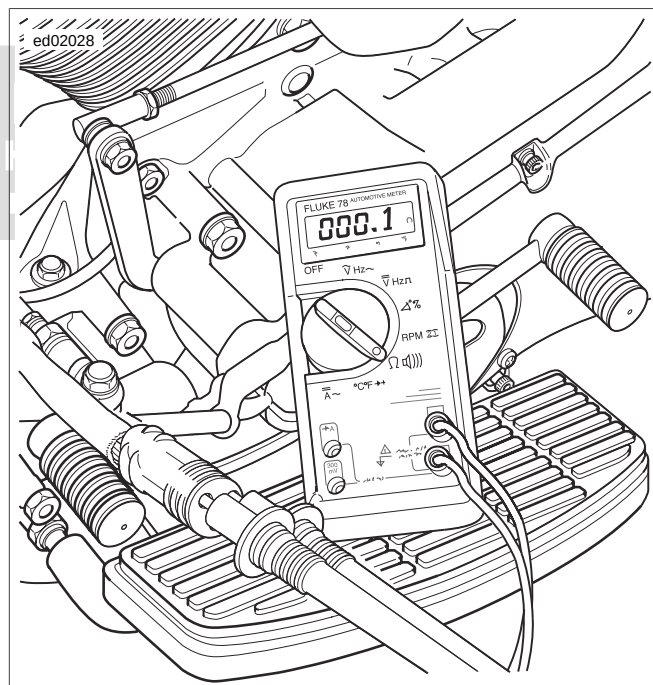

Figure 3-13. Check for Stator Resistance (Typical)
4. See Figure 3-13. Remove ground lead. Measure resistance across stator [47B] terminals 1-2, 2-3 and 3-1.